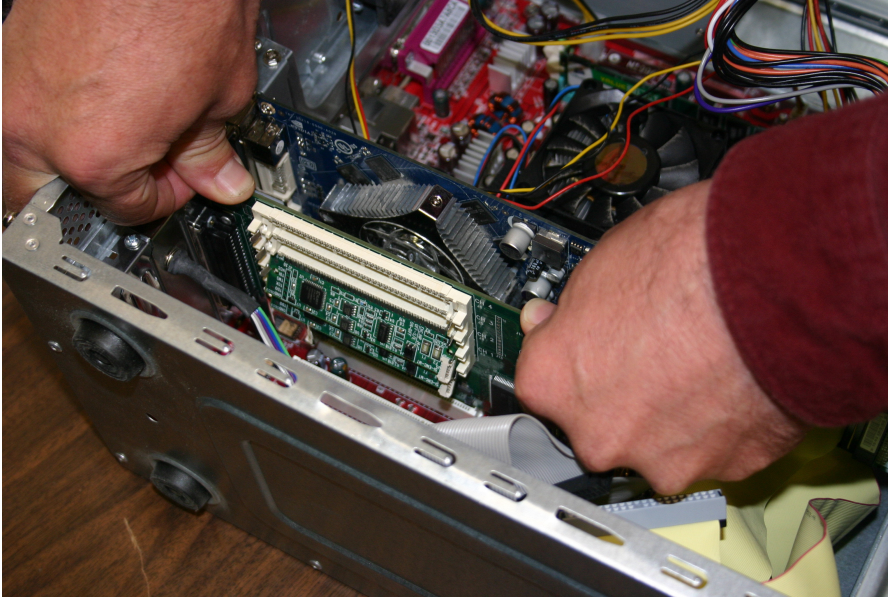

Figure 4. Installing the TLASer400
**Step 3. Installing the TLAser400** – Insert the TLAser400 into the slot (figure 4). Some gentle force may be required, but if there is significant resistance, remove the card and look for obstructions. The card should gently snap into place. In most cases, you should use the screw that previously held the back panel slot cover to secure the TLAser400 in place. In some PC chassis, there is no screw - another mechanism (e.g. a snap down bar securing all cards) will secure the card.